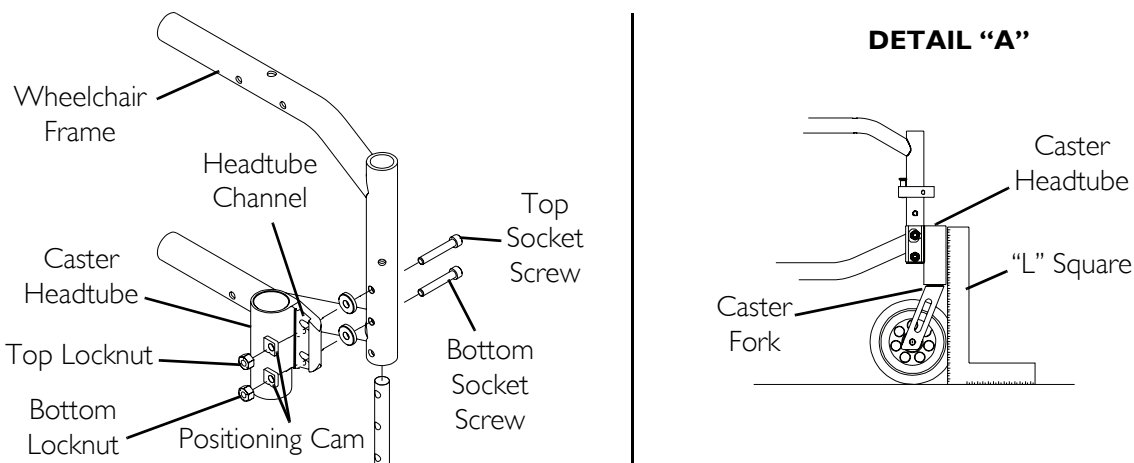

FIGURE 9.3 90° Adjustment of Caster Headtubes
NOTE: For this procedure, refer to FIGURE 9.3 on page 97.
5. Position a large right triangle or "L" square on the flat surface and against the caster headtube (Detail "A" of FIGURE 9.3).